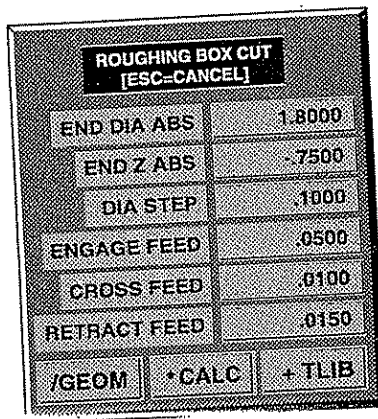

Figure 3-6
- 4) Position the tool outside the diameter and Z positive from the material. Press the **[8] ROUGH** key. A screen as shown in Figure 3-6 will appear.